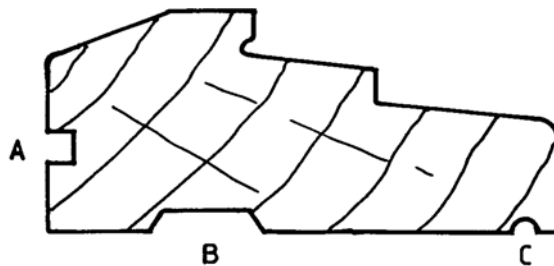

Fig. 11
31. Fig. 11 shows a section of a window sill. State the purpose of the grooves at A, B, & C.